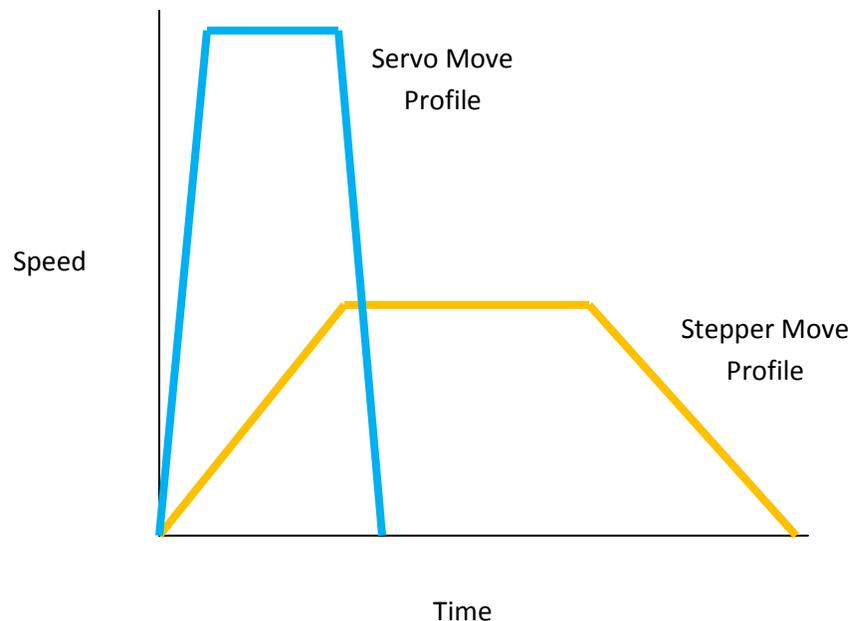

Figure 2
- **Increased Machine Throughput** – With a servo system, the output torque capacity at higher speeds increases dramatically as can be seen in the speed/torque comparison curve (Figure 1). The additional torque at higher speeds can be utilized to improve the application move profile as shown in Figure 2, where the desired movement is accomplished much more quickly with a servo as compared to a stepper system.